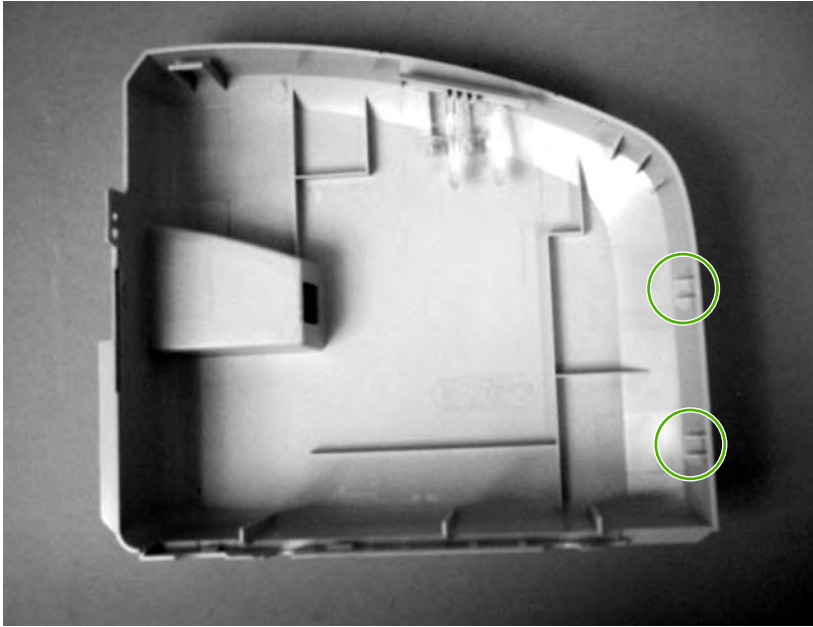

Figure 5-5 Remove the right-side cover (1 of 4; HP LJ 1020 printer shown)
1. Before removing the cover, examine Figure 5-5 Remove the right-side cover \(1 of 4; HP LJ 1020 printer shown\) on page 64 and note the location of tabs on the cover.